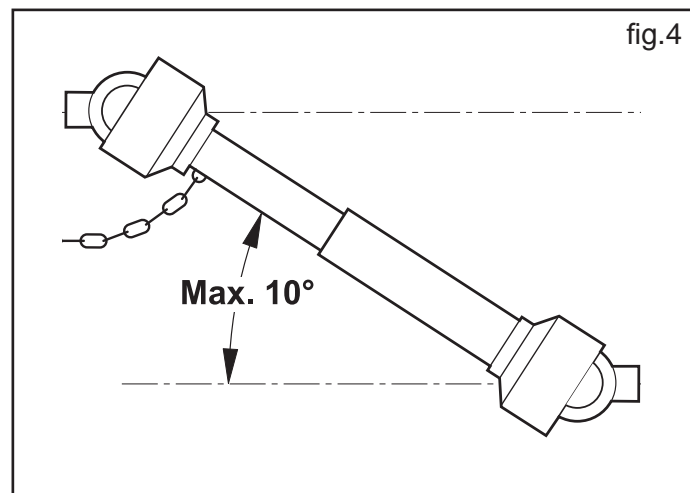

fig.4
- 12) Always disconnect the power take-off when the Cardan shaft is at too wide an angle (never more than 10° - fig.4) and when it is not being used.